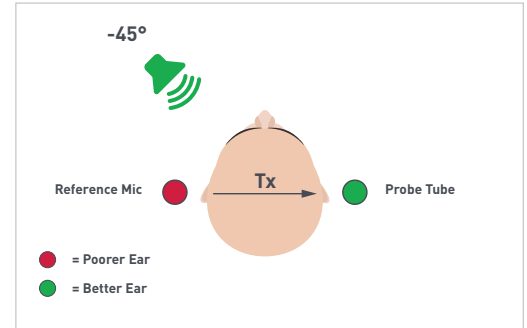

Figure 5
**Step Two:** Measure the response for signal on the poorer ear side (REAR): [Fig. 5]